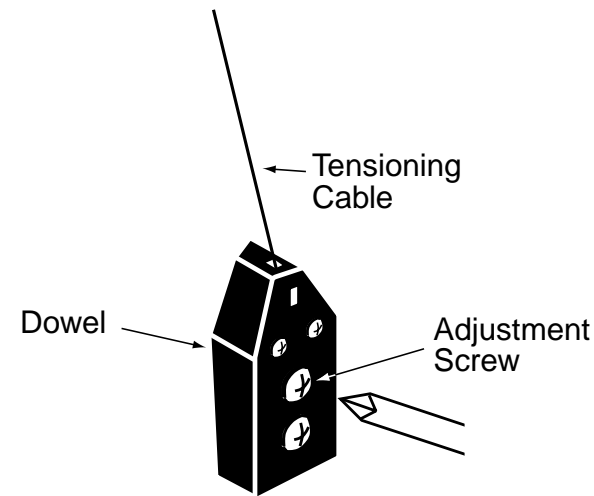

Figure 1
- ① Determine which side requires adjustment.
- ② Secure dowel with one hand.
- ③ Using Phillips-head screwdriver, depress spring-loaded adjustment screw (see Fig. 1) and slowly turn clockwise to tighten tension, or counterclockwise to loosen tension. The screw adjusts in $\frac{1}{4}$ turn increments. Adjust only **one increment** ($\frac{1}{4}$ turn).
- ④ If problem is not corrected, leave screen in position for 24 hours to allow surface material to stretch into position.
- ⑤ If problem still is not corrected, repeat steps 2 and 3.